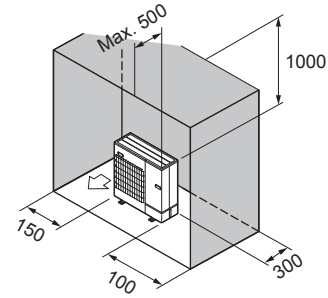

Fig. 3-11
- ⑥ Obstacles at rear, sides, and above only (Fig. 3-11)
(3) When installing multiple outdoor units (Refer to the last page)